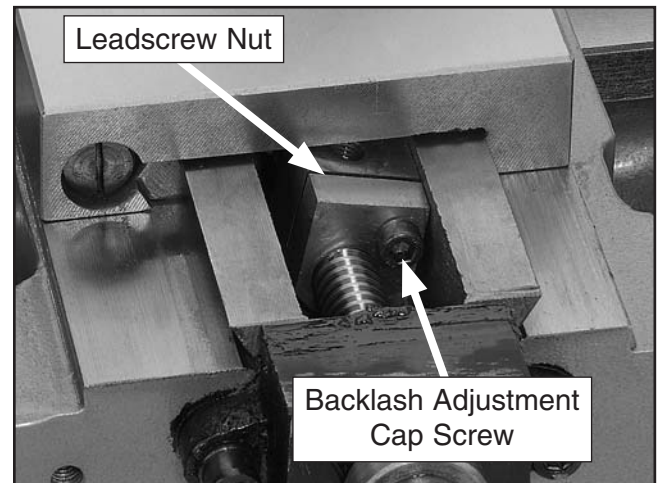

Figure 82. Leadscrew nut.
3. Rotate the cross slide handle to feed the leadscrew nut out from under the cross slide as shown in **Figure 82**.
4. Tighten the backlash adjustment cap screw shown in **Figure 82** in small increments.